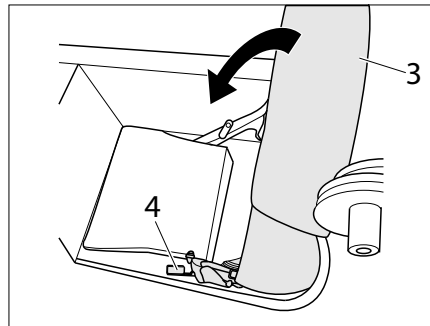

Fig. 223 Move the seat back into the storage box
- Engage lever 2 (Fig. 223,4) and move the seat back (Fig. 223,3) into the storage box.